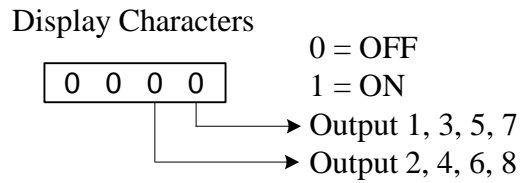

Figure 16: Relay Output Test Display
2.	Press the ► RIGHT ARROW key and the display will show the status of relay outputs 1, 3, 5, 7 and 2, 4, 6, 8. See Figure 16.